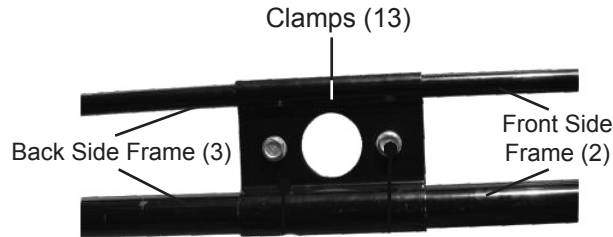

Figure 5
7. Fasten Front Leg Stands (4, 5) to Front Side Frames (2), using Bolts (18), Nuts (19), and Flat Washers (20).
8. Use Bolts (31), Nuts (32), Spring Washers (33), and Flat Washers (34) to connect Leg Stands (4, 5) to Front Bar (10).
9. Slide Front Side Frames (2) and Back Side Frames (3) together. Attach two Clamp halves (13) over connected portion of the Side and Back frames. Use Bolts (15), Nuts (16) and Flat Washers (17) to fasten Clamps over connected frames. See **Figure 5**, below.